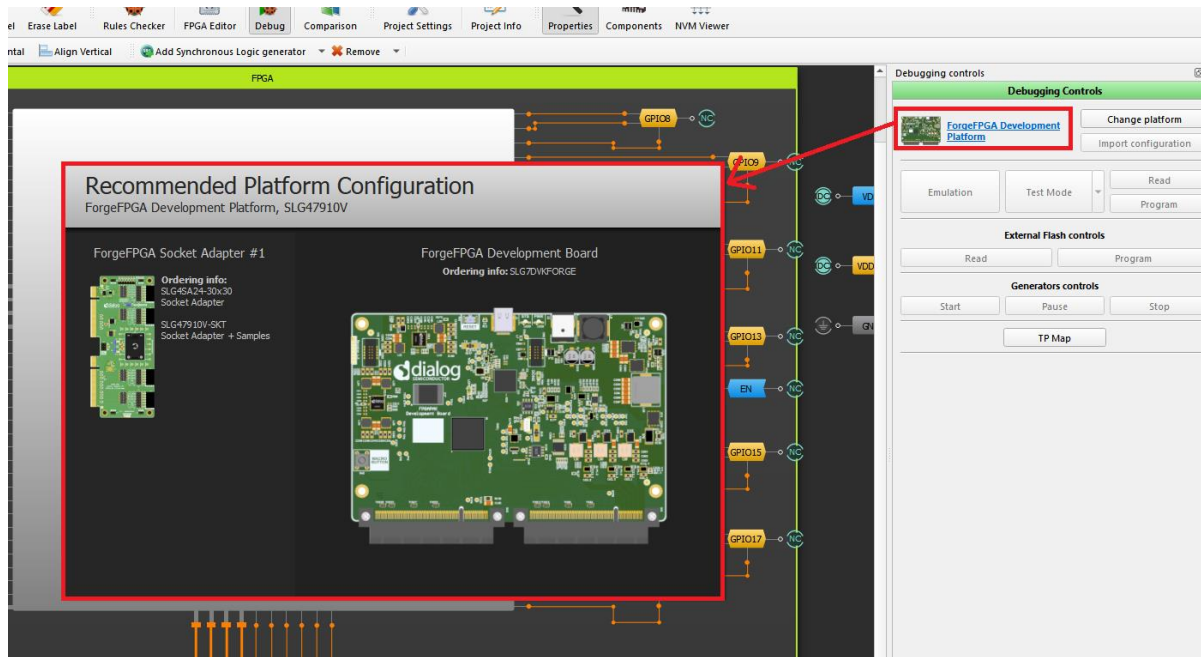

Figure 2: Platform Configuration Guide
*Recommended Platform Configuration* contains information about suitable sockets, adapters, and boards for specific chip. The user can pop up the guide by clicking on platform's name into Debugging controls panel. (Figure 2)